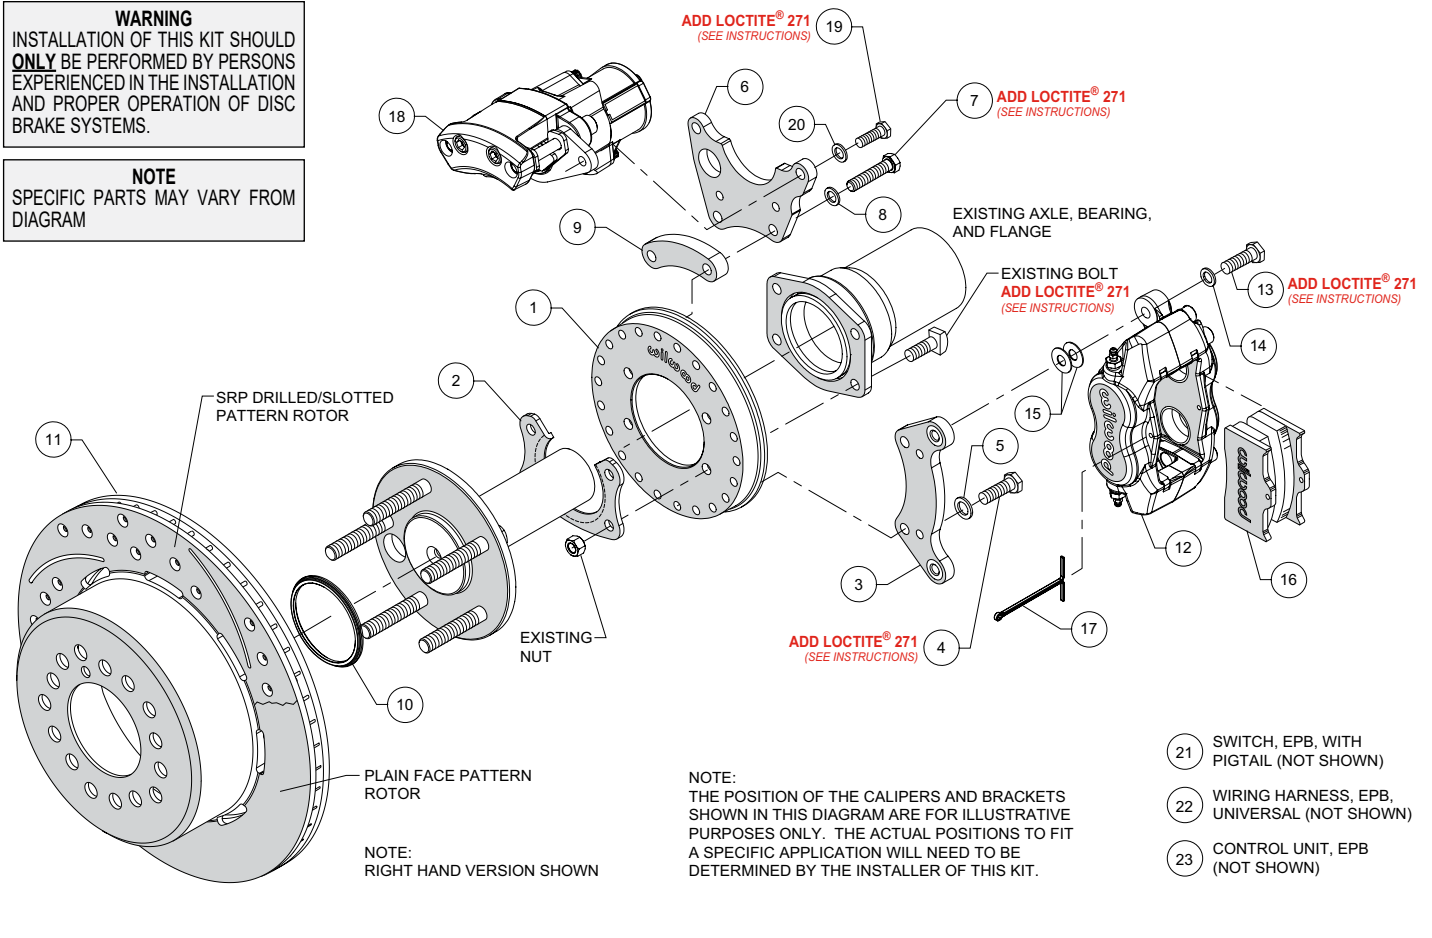
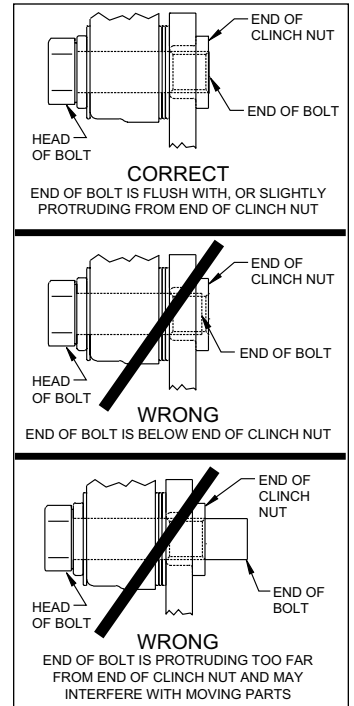

Figure 1. Typical Installation Configuration
Figure 5. Clinch Nut Engagement Diagram
NOTE: Numbers in parenthesis refer to the parts list and Figure 1 on the preceding pages.
CAUTION: All mounting bolts must fully engage clinch nuts. Be sure to check that all bolts are either flush or protruding through flanged side of clinch nut after shimming, Figure 5.
- Orient the backing plate (1) as shown in Figure 1 and Photo 1, and slide it onto the axle housing flange. Ensure the backing plate fits flush against the axle housing flange. Reinstall the axle into the axle housing.
- Install the bearing retainer (2) with the opening pointing upward and the lip facing inward (toward the bearing), as shown in Figures 1 and 4, and Photo 2. Secure retainer and backing plate to the axle housing flange using the Original Equipment Manufacturer (OEM) bolts and nuts, Figure 1 and Photo 3. Apply red *Loctite*® 271 to the OEM bolt threads and torque to OEM specifications.
- Start by determining the best location for the service caliper (12). This caliper is usually mounted in the 3:00 or 9:00 o'clock position, but may be rotated up or down approximately 45 degrees and still allow for proper bleeding, Photo 4. Orient the service caliper bracket (3) as shown in Figure 1 and Photo 5, and install to the backing plate (1) in the desired location using bolts (4) and washers (5). Temporarily tighten bolts. Next, mount the service caliper to the bracket using bolts (13) and washers (14). Temporarily tighten bolts. Check that the caliper (including inlet fitting and hose) has sufficient clearance to all surrounding components through the full suspension travel. Relocate the caliper/bracket on the backing plate as needed to ensure proper clearance is achieved.
- Determine the best location for the EPB caliper (18). **NOTE:** *The EPB caliper motor extends farther inboard than the service caliper and therefore needs additional consideration when determining a mounting location with sufficient clearance.* In the example application shown in Photo 6, the EPB caliper has sufficient inboard clearance to the leaf spring. However, if the EPB caliper were mounted closer to the 12:00 o'clock position, the inner body of the vehicle would hit the caliper during full compression of the suspension.
•Orient the EPB caliper bracket (6) as shown in Figure 1 and Photo 7, and install to the backing plate (1) in the desired location using bolts (7), washers (8), and spacer (9). Temporarily tighten bolts. **NOTE: The EPB bracket is reversible. In one direction the bracket will position the EPB caliper closer to the service caliper, and vice versa if reversing the bracket.** Next, mount the EPB caliper (18) to the bracket using bolts (19) and washers (20). Temporarily tighten bolts. **NOTE: EPB calipers are Left and Right handed, however they can be used on either side of the vehicle to best suit your specific application.** Check that the EPB caliper (including wiring harness connector) has sufficient clearance to all surrounding components through the full suspension travel. Relocate the EPB caliper/bracket on the backing plate as needed to ensure proper clearance is achieved.
•Once the caliper positions have been determined, remove both the service (12) and EPB (18) calipers, leaving both brackets in place on the backing plate. For both brackets, remove the bolts one at a time, apply red *Loctite*® 271 to the threads, and torque to 35 ft-lb.
•Slide the rotor registration adapter (10) onto the register on the axle flange with the smaller O.D. facing toward the rotor/hat (11), Photo 8. Align the correct hole pattern in the rotor/hat with the stud pattern on the axle flange and slide into place, Figure 1. **NOTE: The rotor/hat must fit flush against the axle flange or excessive rotor run out may result.** Install three lug nuts (finger tight) to keep the rotor/hat assembly in place while continuing with the installation. **NOTE: Some OEM and after market axles come with stud sizes larger than 0.50" diameter. Verify stud size and have a qualified machine shop drill the bolt circle of the hat/rotor to the correct stud size, if necessary.**
•**NOTE: Please reference the caution statement at the beginning of the assembly instructions.** Remount the service caliper (12) onto the caliper mounting bracket (3) using bolts (13) and washers (14), as shown in Figure 1. Initially place two .035" thick shims (15) on each bolt between the caliper and the bracket, Photo 9. Temporarily tighten the mounting bolts and view the rotor (11) through the top opening of the caliper. The rotor should be centered in the caliper, Photo 10. If not, adjust by adding or subtracting shims (15) between the bracket (3) and the caliper (12). Always use the same amount of shims on each of the two mounting bolts. **NOTE: The end of each bolt must be flush with or slightly protruding from the head of the clinch nut, as shown in Figure 5.** If necessary place spare shims (15) between washer (14) and caliper mounting ear to achieve the proper clinch nut engagement. Once the caliper alignment and clinch nut engagement are correct, remove the bolts one at a time, apply red *Loctite*® 271 to bolt threads, and torque to 40 ft-lb.
•Install the disc brake pads (16) into the service caliper (12), with the friction material facing the rotor (11), Photo 11. Secure the pads in place using the cotter pin (17), Photo 12.
- Mount the EPB caliper (18) onto the caliper mounting bracket (6) using bolts (19) and washers (20), Figure 1. Apply red *Loctite*® 271 to bolt threads, and torque to 30 ft-lb.
- NOTE:** *The service caliper (12) in this brake kit utilizes a 1/8-27 NPT pipe thread inlet. OEM rubber brake hoses generally cannot be adapted to Wilwood calipers.* The preferred method is to use steel adapter fittings at the caliper, either straight, 45 or 90 degree (use PTFE tape on pipe threads of adapter fitting for proper sealing to caliper) and enough steel braided line to allow for full suspension travel. **Carefully route hoses to prevent contact with moving suspension, brake or wheel components.** **NOTE:** *Wilwood hose kits are designed for use in many different vehicle applications and it is the installer's responsibility to properly route and ensure adequate clearance and retention for brake hose components.* Wilwood offers universal brake flex line hose kits, domestic (3/8-24 IF) chassis fittings, order: